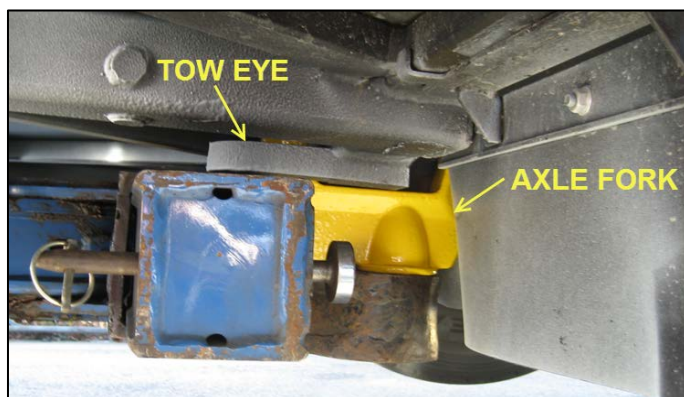

FIGURE 35
4. Adjust fork holder's position and hand guide the forks into each front tow eye. (Figure 35)
5. Lift the tow bar until the axle forks fit snugly into the front tow eyes (Figure 35).